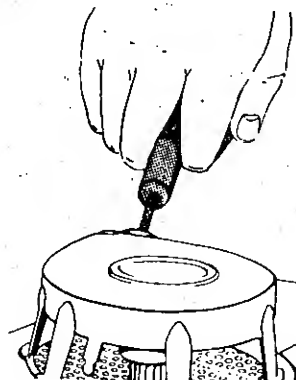

Figure 8
- b. Grasp starter handle firmly with right hand (Figure 8) and pull sideways rapidly. Return handle **SLOWLY** to engine.